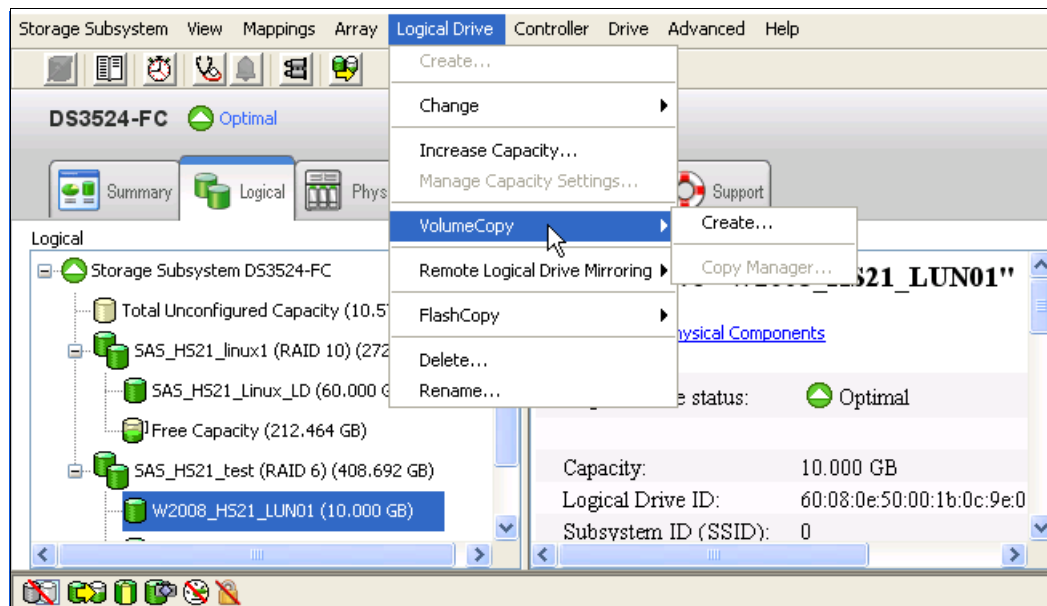
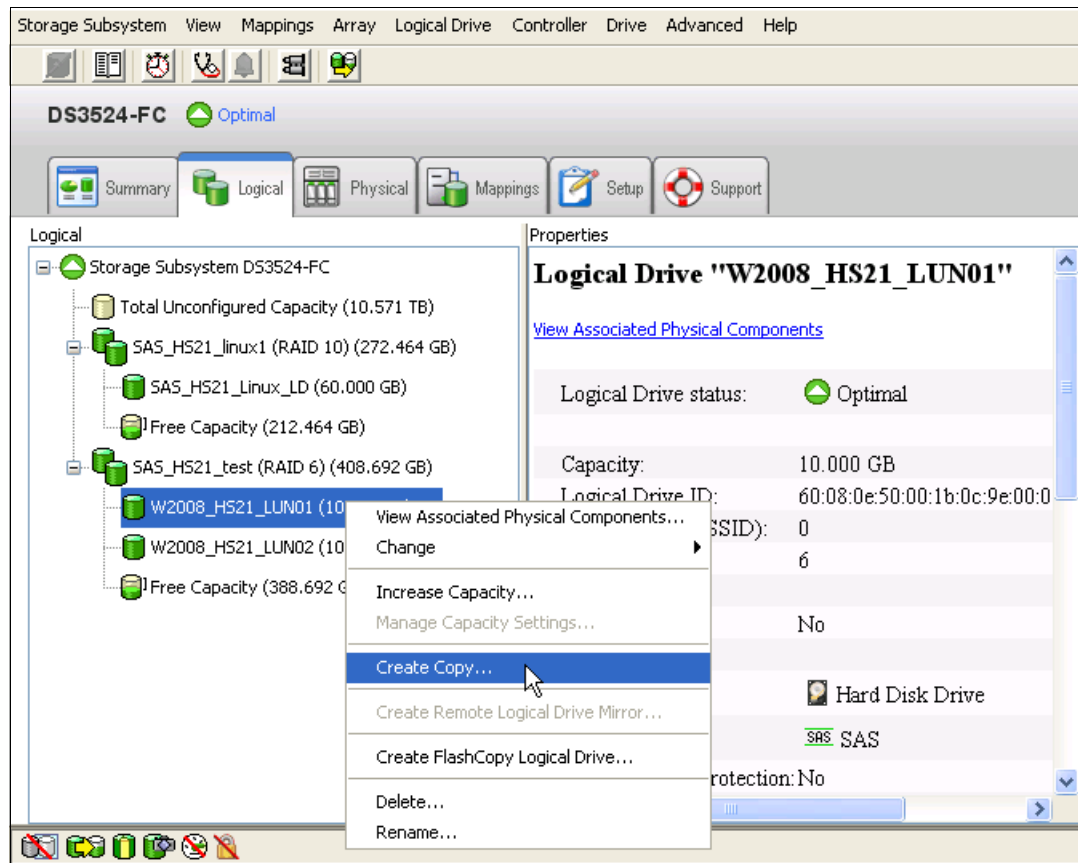

Figure 3-6 Launching Logical Drive Create Copy wizard from Logical Drive drop-down
Figure 3-7 Launching Logical Drive Create Copy wizard from right-mouse pop-up menu
4. Select **Logical Drive** → **VolumeCopy** → **Create** as shown in see Figure 3-6. (Or, right-click and select **Create Copy**; see Figure 3-7).